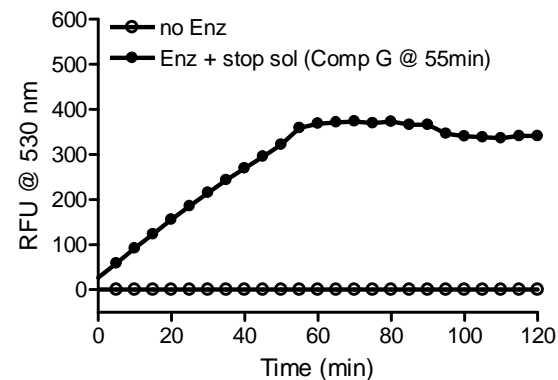

Fig. 3. Stop solution (component G) effectively maintained RFU value when added at any desired time points.
E. Data collection at end-point mode: After initiation of reaction with test compound or control inhibitor at 25°C, add stop solution at certain time points (ex, 30, 60 or 90 min) (component G, 5ul/well of 96-well or 1ul/well of 384-well plate) and measure RFU values. After addition of stop solution, further cleavage reaction will be stopped and the RFU values are maintained as shown in Figure 3. This method is useful for the high throughput screening of test compounds to obtain potential drug candidates.